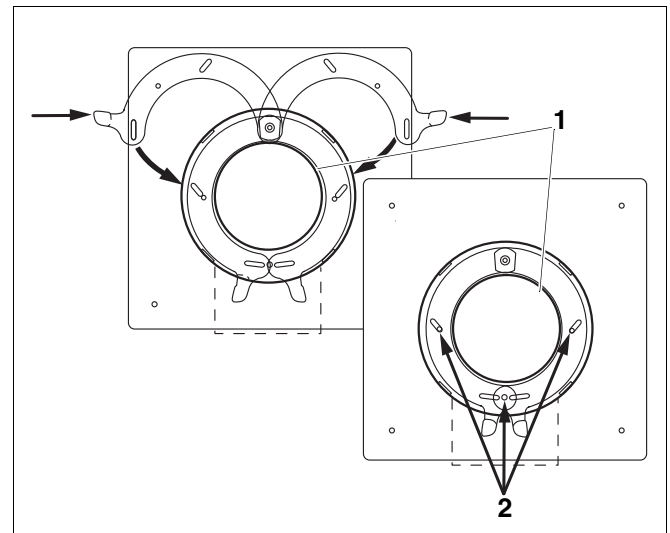

Fig. 15 Securing clips
- Attach the flue pipe to the wall penetration with the two securing clips. Rotate the securing clips down and attach with the screws (→ Fig. 15).
- Seal gap (→ Fig. 15) with silicone.